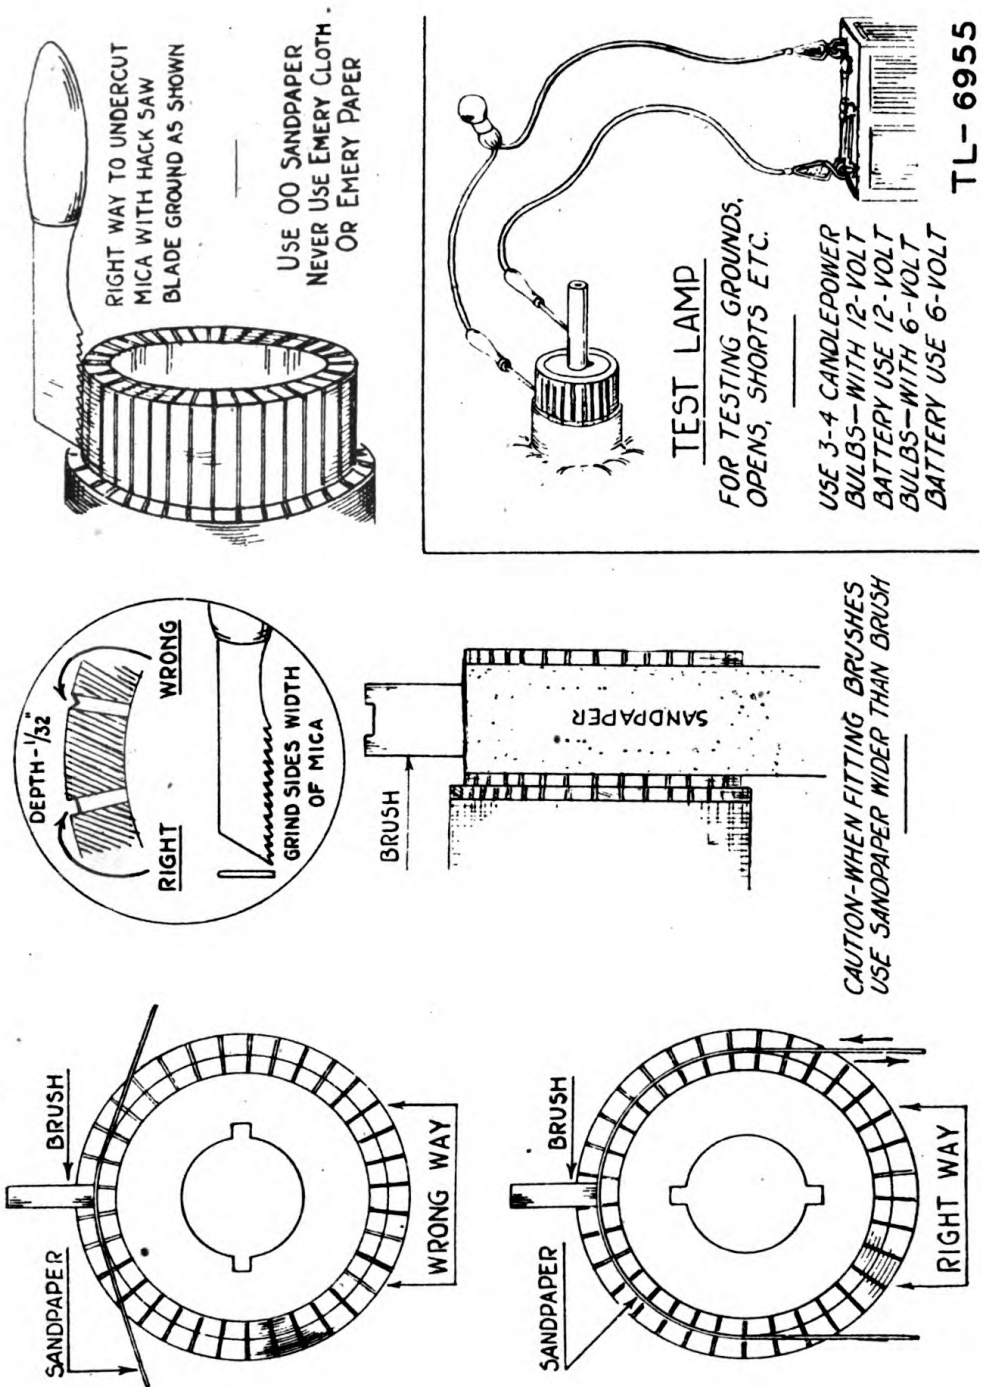

Figure 10.—Brush and commutator servicing
f. Mica is used for insulation between the commutator segments. When the armature is constructed, the mica is cut away, or under cut, to a depth of about $1/32$ inch below the surface of the segments. In time, the segments will wear down to the level of the mica. If the mica is even with, or projects above, the commutator segments, it should be cut away (under cut) to a depth of about $1/32$ inch (see figure 10). A broken hack saw blade, with the sides ground to the width of the mica, is a good tool for this purpose.
i. To fit new brushes, or reseal old ones, cut a strip of No. 00 sandpaper the width of the brush. Insert the sandpaper with the brush resting on the sanded surface and pull it in the direction of rotation. Do not pull it back and forth. Repeat this operation until the brush is properly seated. See figure 10. The spring tension should be sufficient to press each brush against the commutator with uniform tension. It is very important that each brush have an equal pressure. If one of the springs is too weak, the opposite brush will have to take more than its share of the load, and sparking and damage to the commutator and collector rings will result. NOTE: In general, the above instructions also apply for the battery-charging generator.